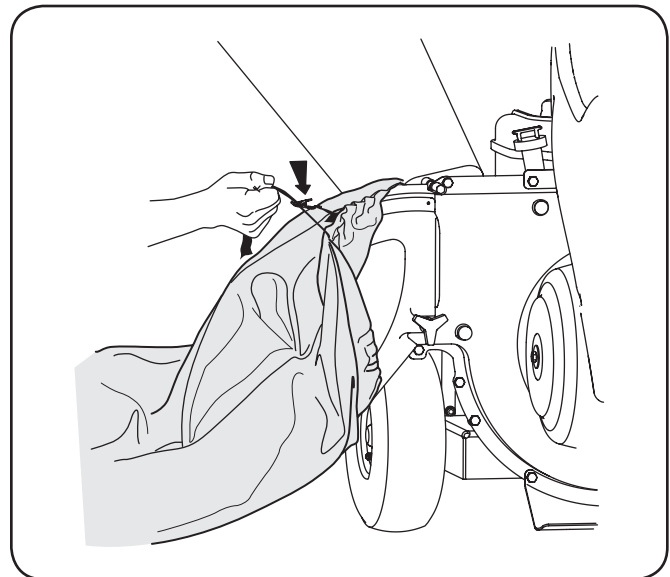

Figure 5-1
3. Empty bag and reattach to the discharge chute opening. Pull on the drawstring until the bag is tight around the chute opening and clip the drawstring tight against the chute deflector. See Figure 5-1.